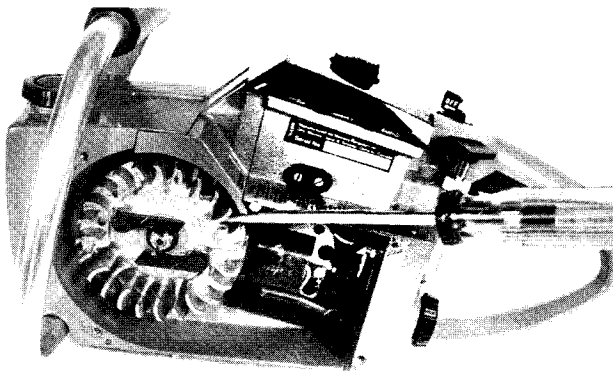
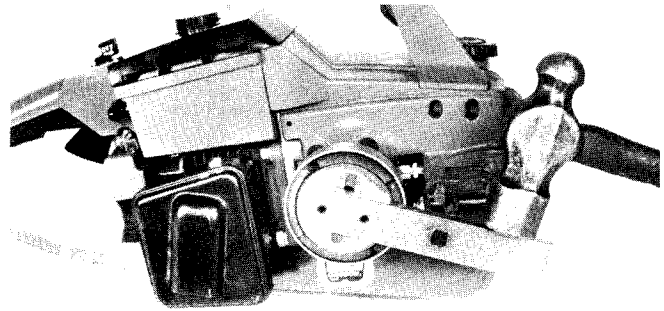

Fig. 24 — Holding Flywheel for Clutch Removal
Fig. 25 — Removing Clutch Assembly
3. Place screwdriver in reinforced area of flywheel, Fig. 24, and turn clutch assembly clockwise (left-hand threads) with special tool, Fig. 25. Be sure screwdriver is next to heavy portion of flywheel.